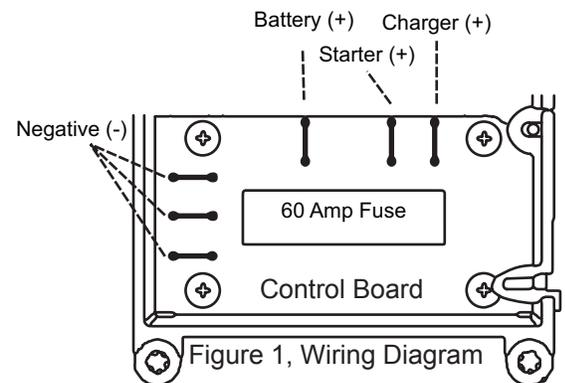

Figure 1, Wiring Diagram
3. Install the desired battery pack into battery compartment, cutting the provided foam padding to provide support, additional foam can be purchased from Sullivan. Install female spade connectors on the battery pack leads and connect to the control board, following Figure 1 below. **Do not reverse or short battery pack leads.**